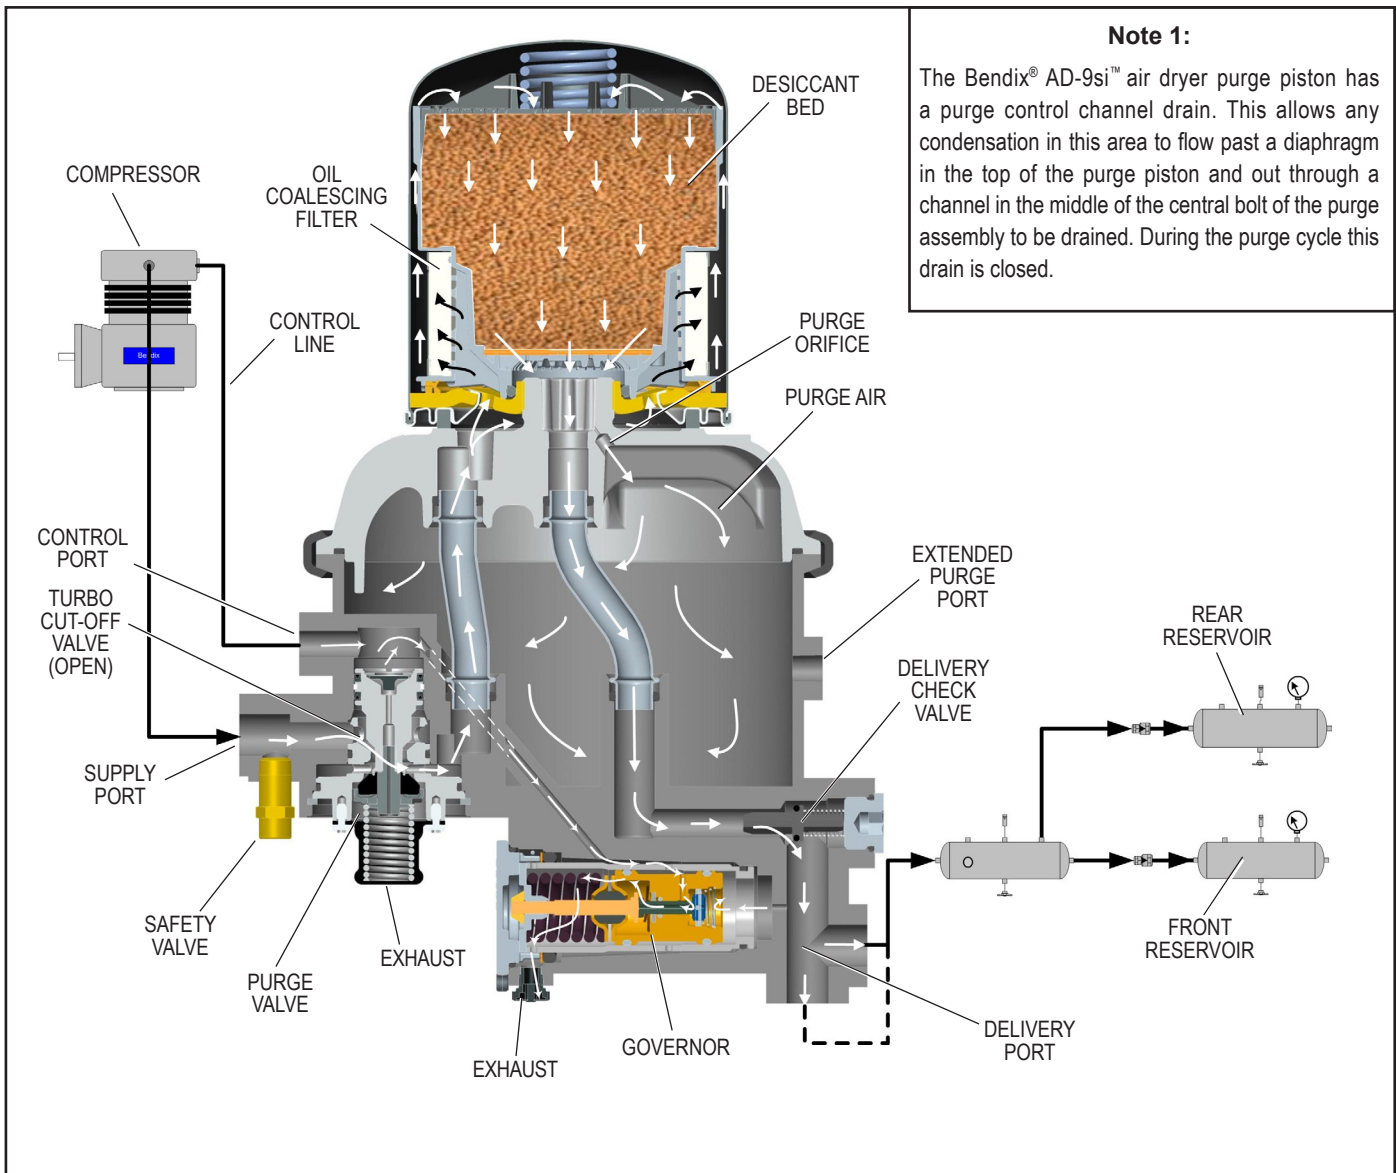
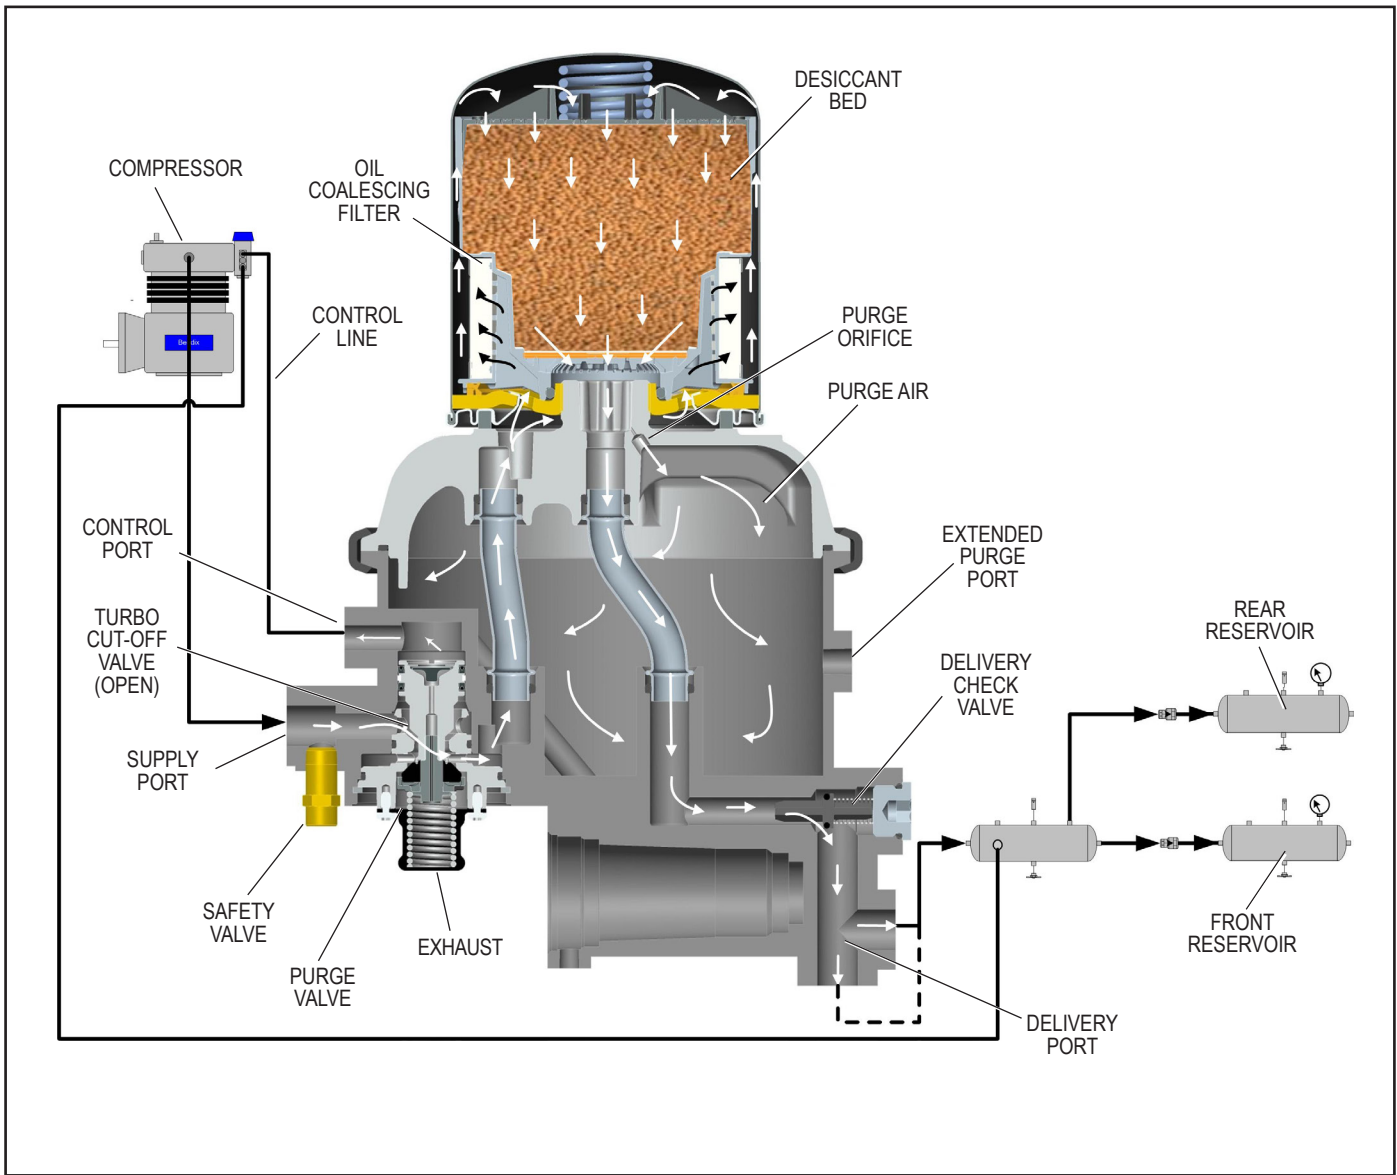

FIGURE 2 - BENDIX® AD-9si™ AIR DRYER WITH GOVERNOR—CHARGE CYCLE
FIGURE 4 - BENDIX® AD-9si™ AIR DRYER WITHOUT GOVERNOR—CHARGE CYCLE
BENDIX AD-9si AIR DRYER OPERATION: GENERAL (Refer to Figures 2 through 5.)
The Bendix AD-9si air dryer is designed to receive compressed air from the vehicle air compressor, clean and dry the air, deliver air to the vehicle’s air reservoirs and control the compressor/dryer charge cycle. The AD-9si air dryer is available with an internal governor (Figures 2 and 3) or without an internal governor (Figures 4 and 5).
CHARGE CYCLE (Refer to Figures 2 and 4)
- A. Electric Power to the Dryer (Refer to Figure 4)